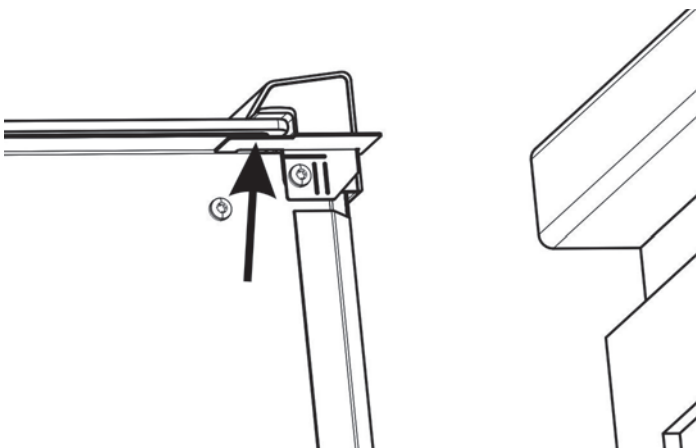

Figure 5: Tighten screw
7. Press up on the corner cover at the arrow (see Figure 5: Tighten screw) while finishing the tightening of the screw.